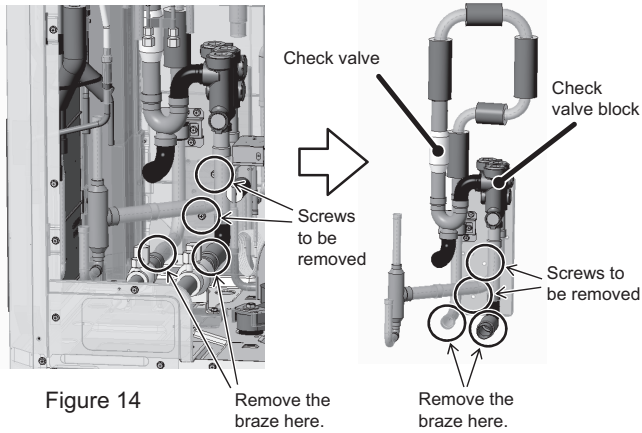

Figure 14
(14A) Install the pipe below four-way valve (21S4a) and on the front by brazing at the three areas shown in Figure 14.
- (14) Remove the braze from the pipe where circled in the figure, and unscrew the two screws on the check valve block fixing plate to remove the check valve block assembly. (2 areas to remove braze from. 2 screws to be removed. See Figure 14.)